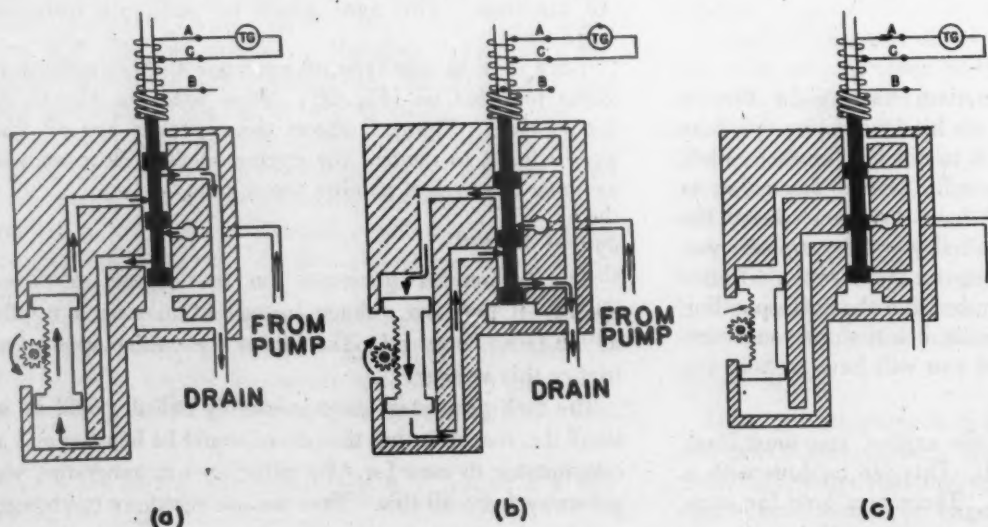

Fig. 6—How the pilot valve controls the movement of the slave piston
Muscle is no good unless we have an arm to put it to work. In this case, the "arm" is a piston called the "slave piston" (Fig. 6). It is free to float in its cylinder and is removed by oil pressure. This piston, in turn, is linked to the fuel racks and moves them. Oil pressure acts on either the top or bottom to move the piston. One
When the pilot valve is controlling speed, the plunger will be in one of the three positions (Fig. 6), depending on the engine speed.
(1) When the engine speed is low, the tach generator voltage will be low and the current through the pilot valve coil will be low. This makes the downward pull on the core low, and the springs will push it and the plunger up. Oil from the pump will flow to the bottom of the slave piston (Fig. 6 a), and force it up. This will turn the pinion and move the racks to increase fuel and speed the engine up.
(2) When the engine speed is high, the tach generator voltage will be high and the current through the pilot valve coil will be high. This will pull the core and the plunger down. Oil will flow to the top of the slave piston (Fig. 6 b), and force it down. This will move the racks to decrease fuel and slow the engine down.
(3) When the engine speed is right, the tach generator voltage will be right. Then just enough current will flow through the coil to center the plunger and cut off the oil flow to the slave piston (Fig. 6 c). This is called the balanced position for the pilot valve. The valve should balance with a current of about 0.475 amp. in the coil. You get this balance current by adjusting the trimmer spring at the top of the valve.